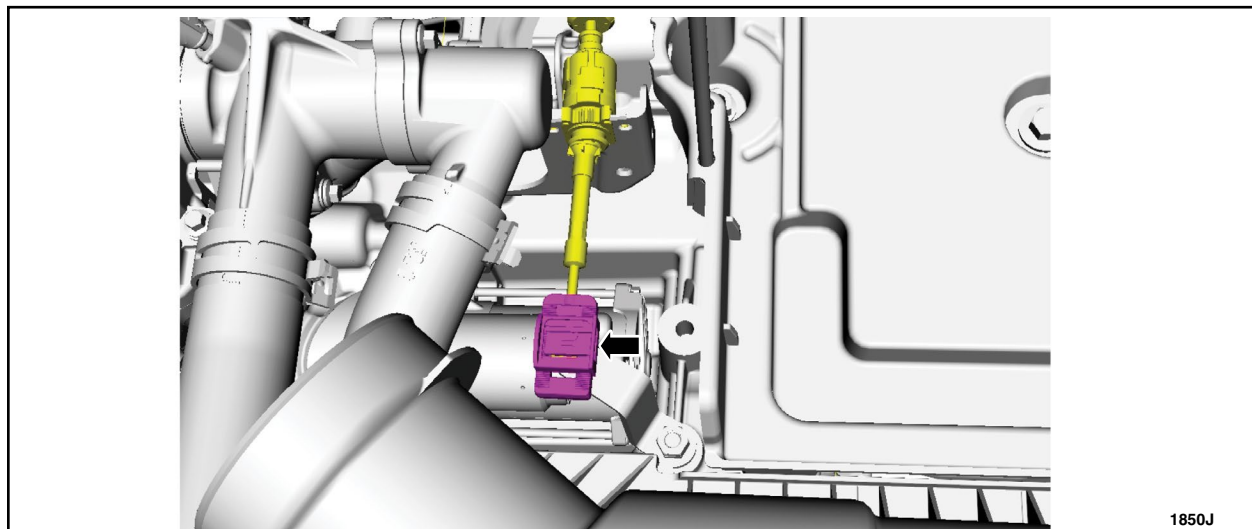

FIGURE 11
3. Disconnect the selector lever cable from the transmission controller arm. See Figure 11.